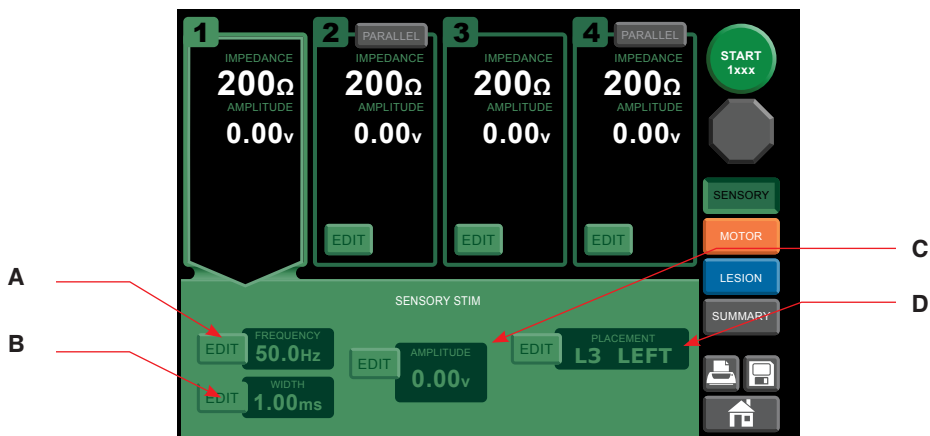

Figure 13 Typical Stimulation Screen - INACTIVE
1. Touch the EDIT button in the procedure tab area to access the electrode setting values (see figure 13).